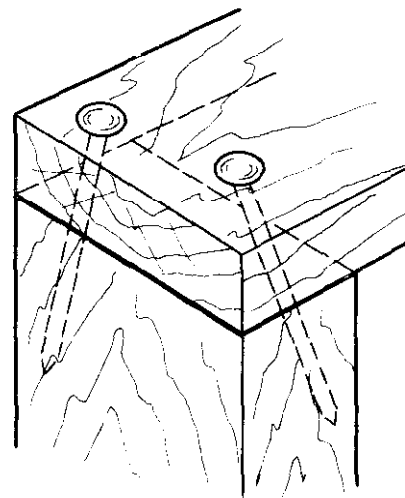

Fig. 11-32 Nailing into an end grain.
2. Drive the nails at angles to one another as shown in figure 11-32. By doing this, the nails also enter the end grain at an angle, resulting in a clinching effect and greater holding power.